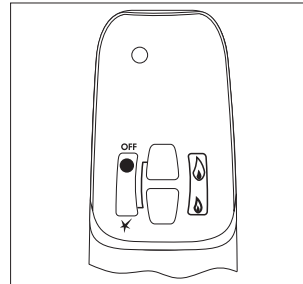

Figure 9: Infrared Remote Handset
**Infrared Remote Handset** (see figure 9)